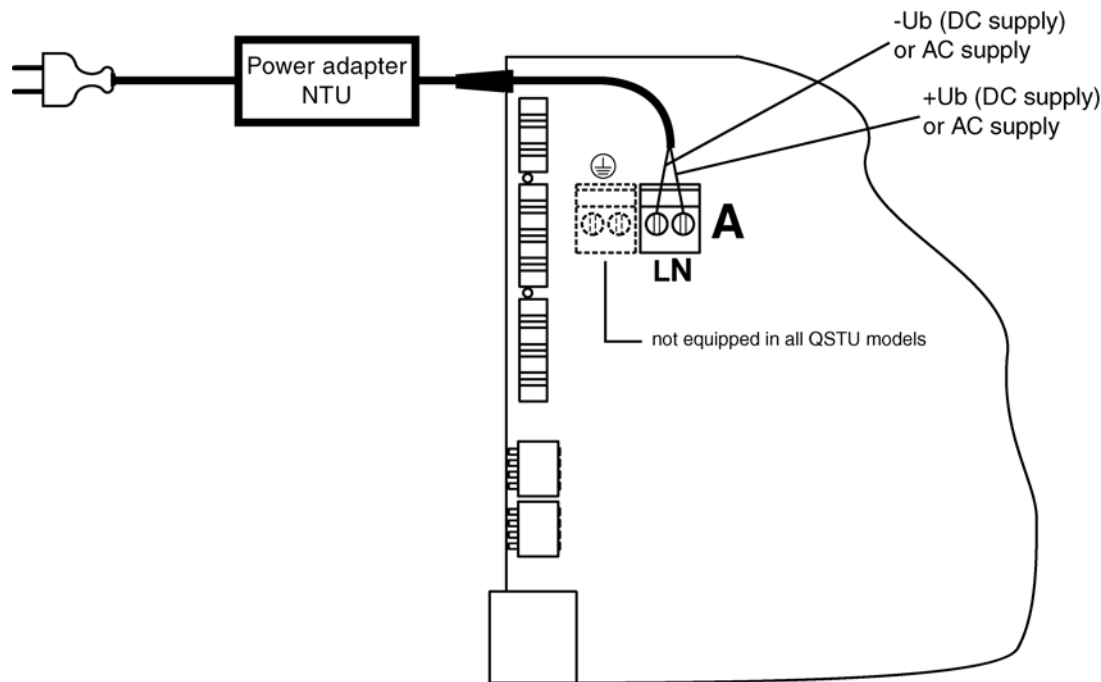

Fig. 2.137 Connecting desktop power adapter NTU
7. Connect the desktop power adapter according to Fig. 2.137 (**Warning:** You must not bend the board)